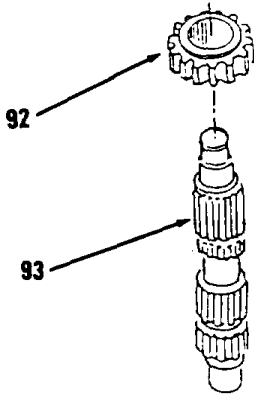

Figure 14-65.
- 46. Remove gear (92) from shaft (93, Figure 14-65).